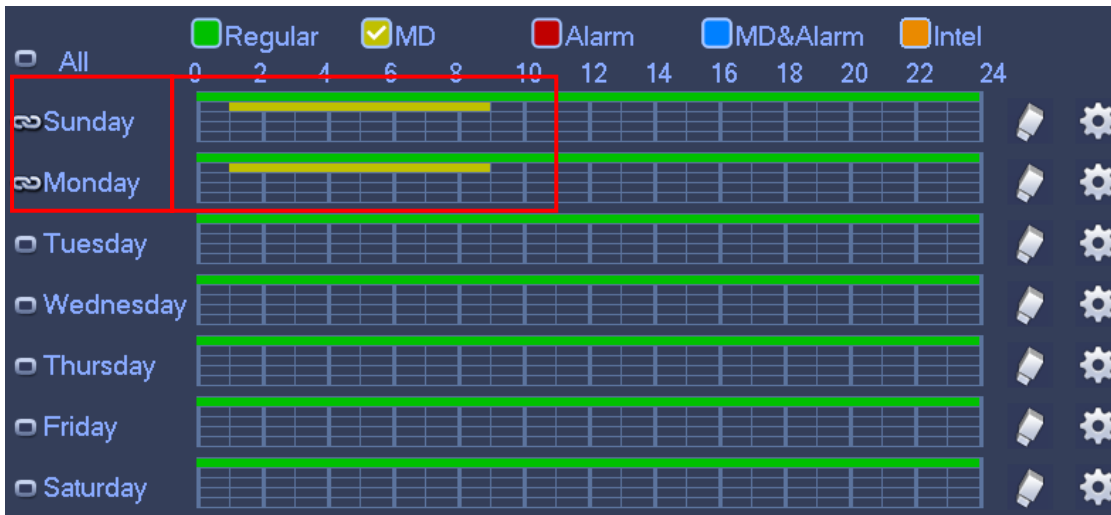

Figure 4-27
- ✧ Please draw manually to set record period. There are six periods in one day. See Figure 4-27.